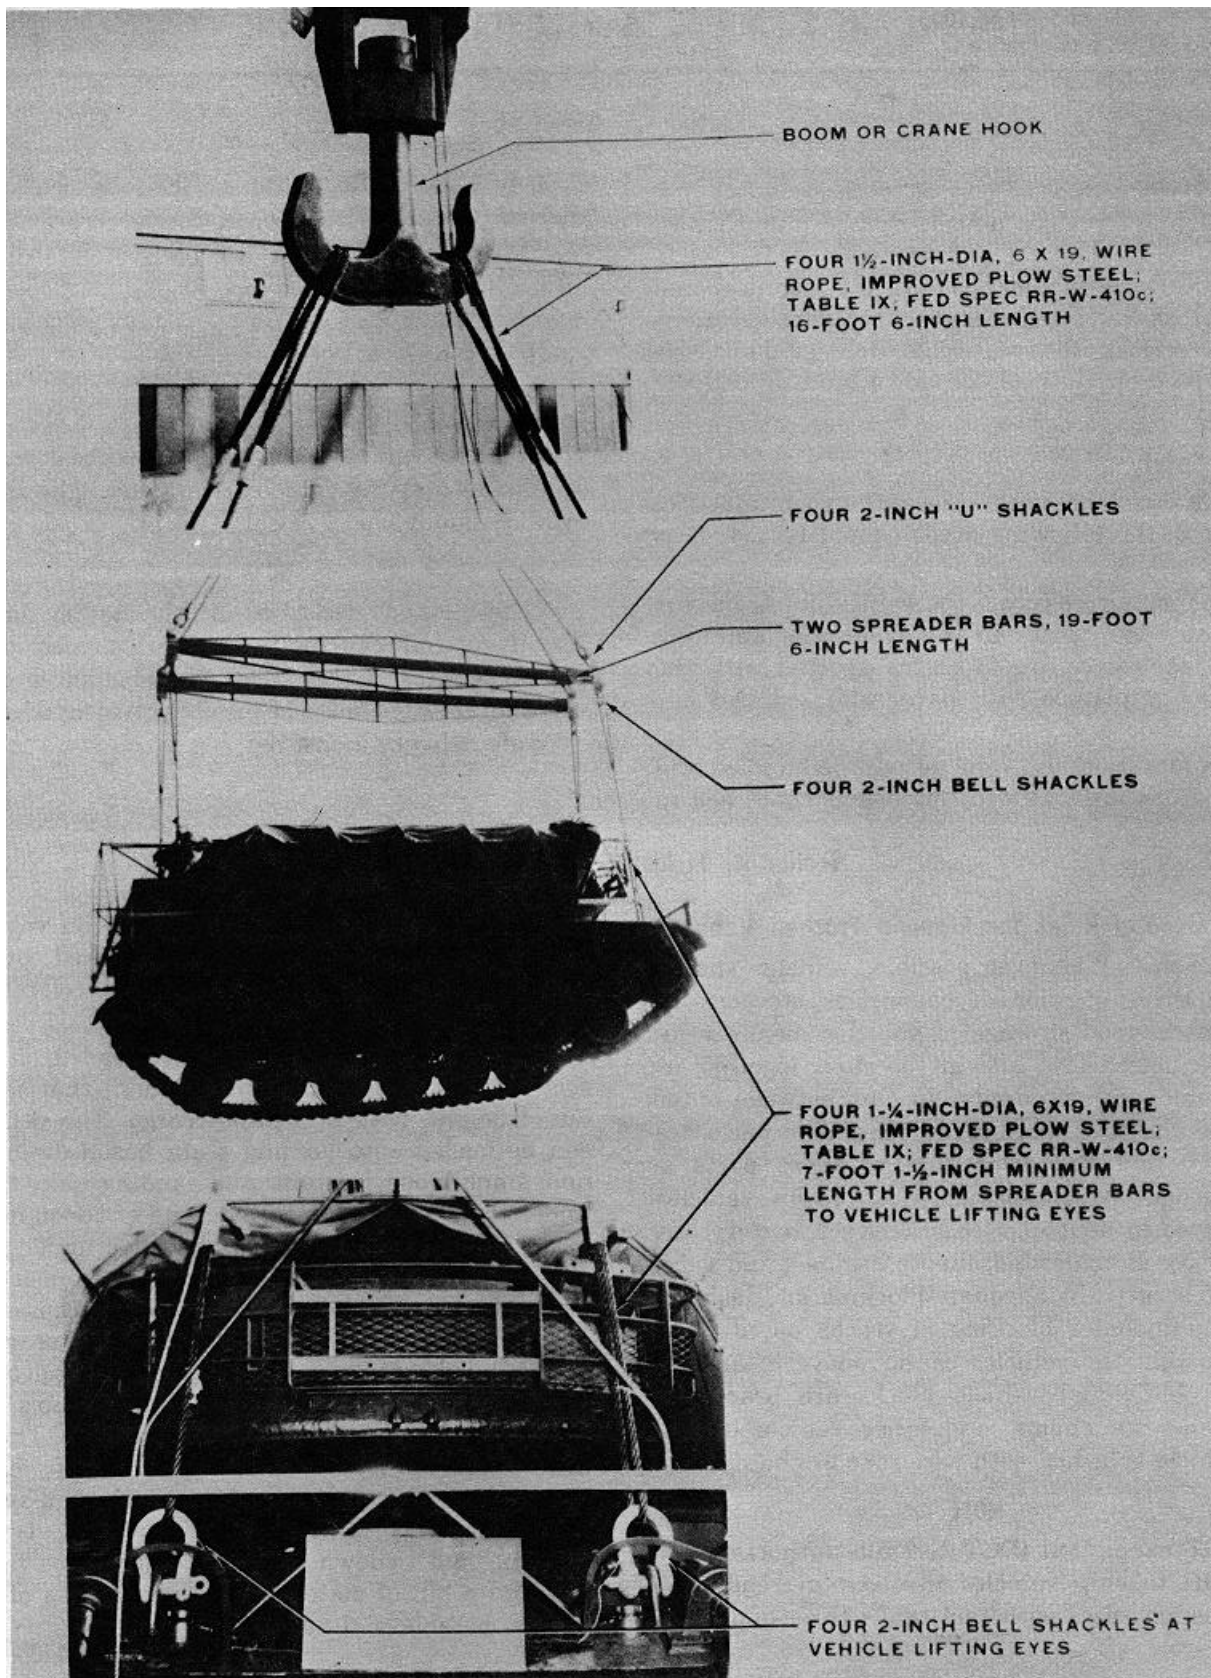
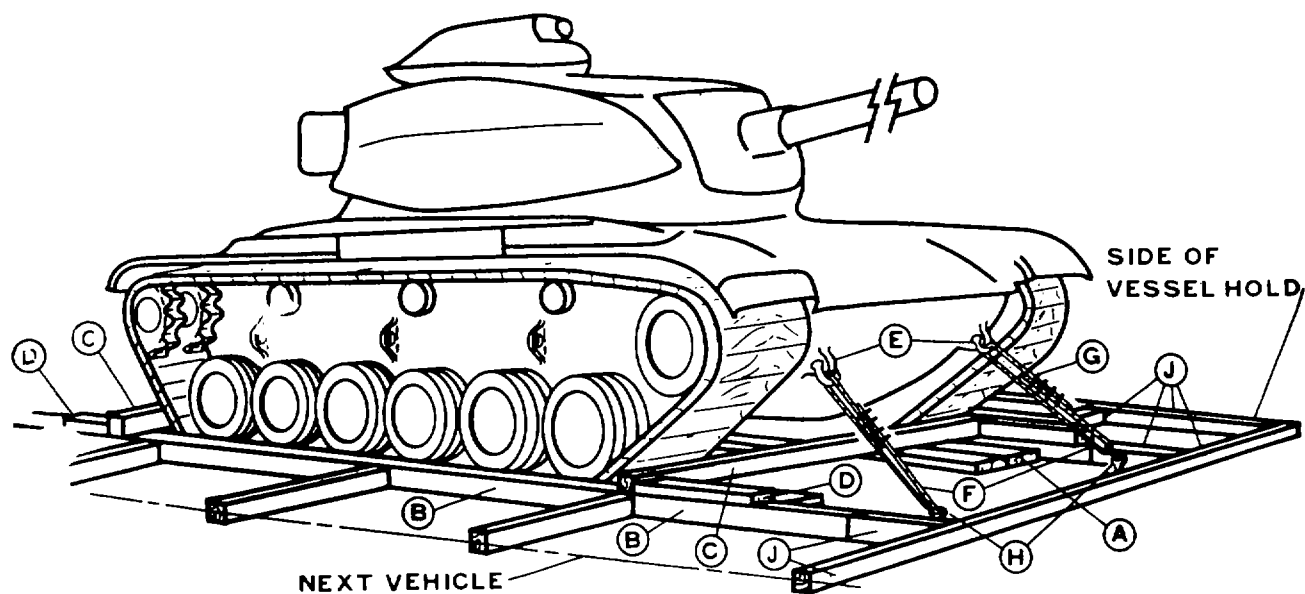

Figure 6-1. Lifting diagram for M60, with wire-rope and spreader-bar sling.
Figure 6-2. Typical blocking and tiedown for M60 in hold of general cargo vessel.
b. Loading. Vehicles are always loaded on vessels in their minimum configuration; that is, reduced height, with or without cargo. The vehicles can be loaded onto landing craft, beach discharge and amphibious lighters, and landing ship tanks under their own power or by crane of adequate capacity. The vehicles can also be loaded under their own power onto the decks of barges from a pier when tidal conditions are suitable and ramps are available. The vehicles can be loaded onto seagoing vessels by shoreside or floating cranes of adequate capacity. Jumbo booms and heavy-lift ship's gear may be used in loading vehicles on vessels. The vehicles can be loaded on roll-on/roll-off vessels under their own power or by towing. A diagram for typical M60A2 lifting is figure 6-1; typical blocking and tiedown details are shown as figure 6-2; and a bill of materials and application of materials, as tables 6-1 and 6-2.
Table 6-1. Bill of Materials for Blocking and Tiedown of M60 in Hold of General Cargo Vessel (Fig. 6-2)
Table 6-2. Application of Materials for Blocking and Tiedown of M60 in Hold of General Cargo Vessel (Fig. 6-2)